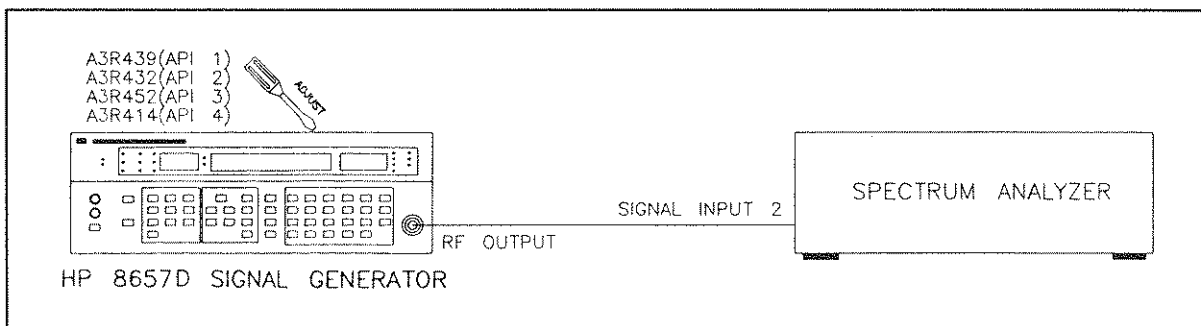

Figure 5-15. API 1, 2, 3 and 4 Adjustment Setup
- Connect the RF OUTPUT of the HP 8657D to the spectrum analyzer as shown in Figure 5-15.